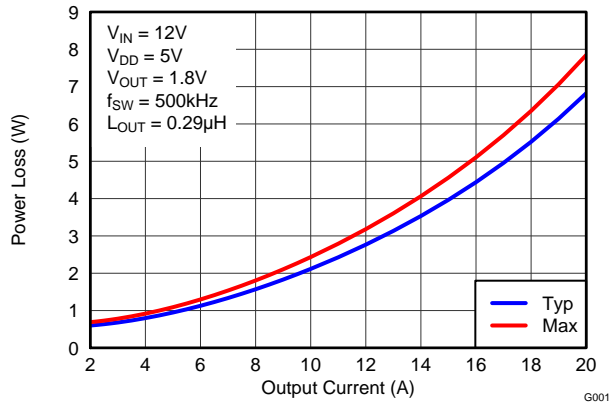
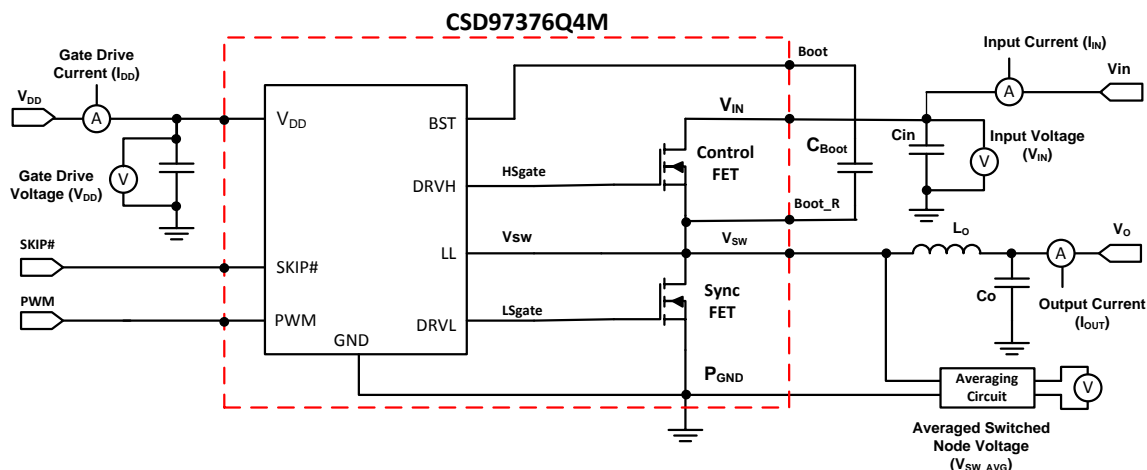

Figure 3. Power Loss vs Output Current
Figure 18. Power Loss Test Circuit
MOSFET centric parameters such as  $R_{DS(ON)}$  and  $Q_{gd}$  are primarily needed by engineers to estimate the loss generated by the devices. In an effort to simplify the design process for engineers, Texas Instruments has provided measured power loss performance curves. Figure 3 plots the power loss of the CSD97376Q4M as a function of load current. This curve is measured by configuring and running the CSD97376Q4M as it would be in the final application (see Figure 18). The measured power loss is the CSD97376Q4M device power loss which consists of both input conversion loss and gate drive loss. Equation 1 is used to generate the power loss curve.
The power loss curve in Figure 3 is measured at the maximum recommended junction temperature of  $T_J = 125^\circ\text{C}$  under isothermal test conditions.
- Typical Power Loss at 10A = 2.1W (Figure 3)